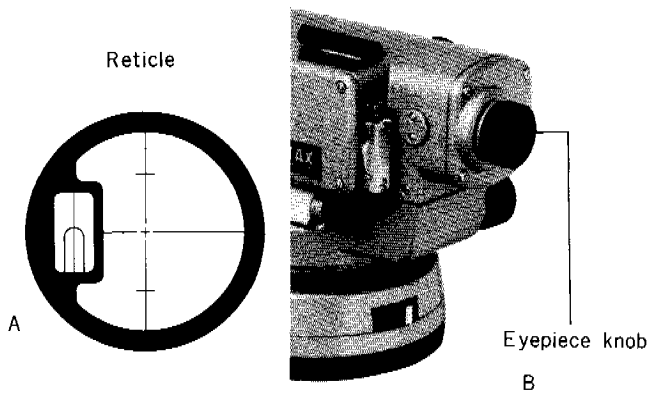

Fig. 3
- 2) Rotate the eyepiece knob to the left and temporarily pull out the eyepiece. (See fig. 3-B)
- 3) Look through the eyepiece and rotate the eyepiece knob to the right until the reticle appears as its maximum sharpness. (See fig. 3-A)